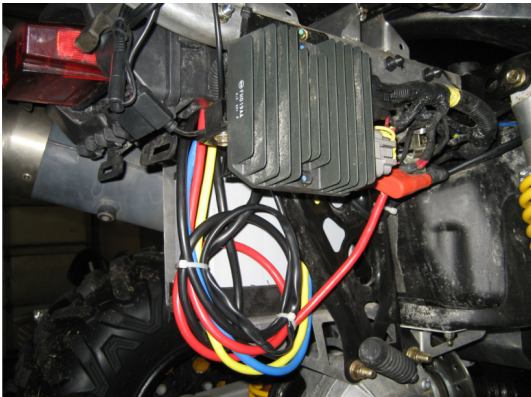

Figure 41
- Zip tie all loose cables and ensure that they will not rub against any moving parts or the exhaust system. (Figure 41)